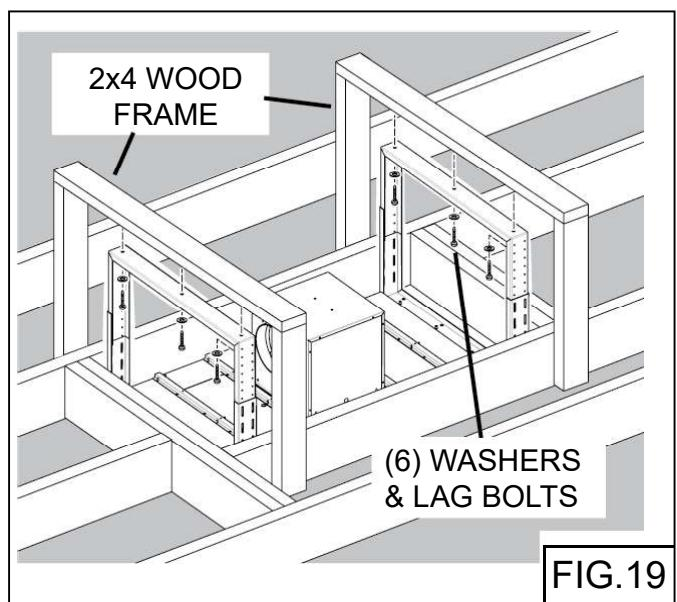

FIG.19
4. Secure each support frame to the wooden hood support frame using (6) 6 x 60 mm lag bolts and washers provided. Fig. 19.